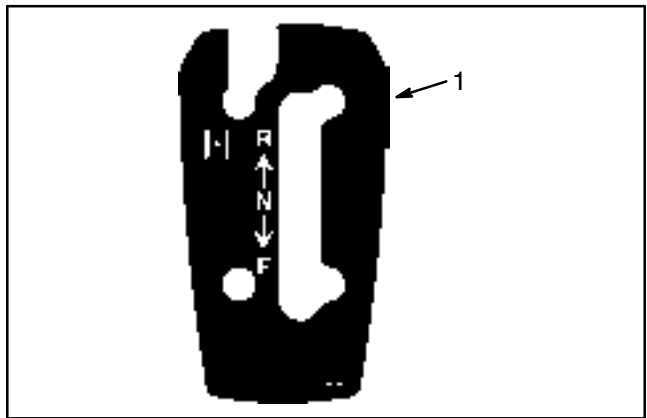

Figure 3
2. On vehicles equipped with a neutral position on the shift lever (Fig. 3):